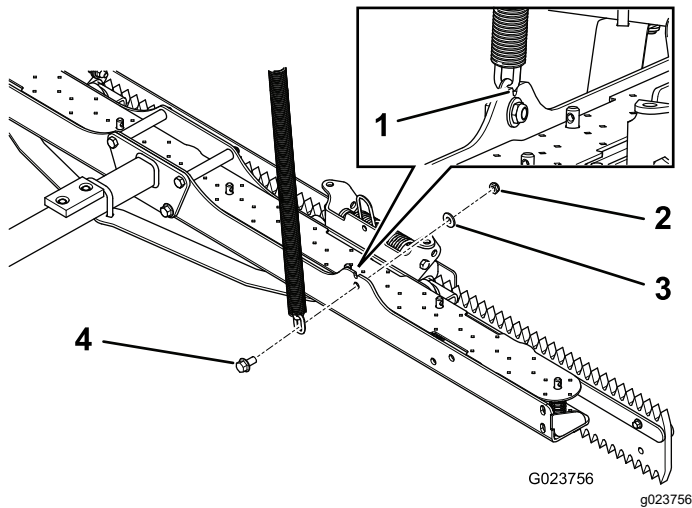

Figure 8
1. Insert a bolt (3/8 x 3/4 inch) through a lift chain, and secure it to the bottom plate with a washer (3/8 inch) and a locknut (3/8 inch); refer to Figure 8.
Note: To ensure that the chain lengths do not change by rotating, ensure that the second link of the chain stays in the slot above the bolt hole, as shown in Figure 8.